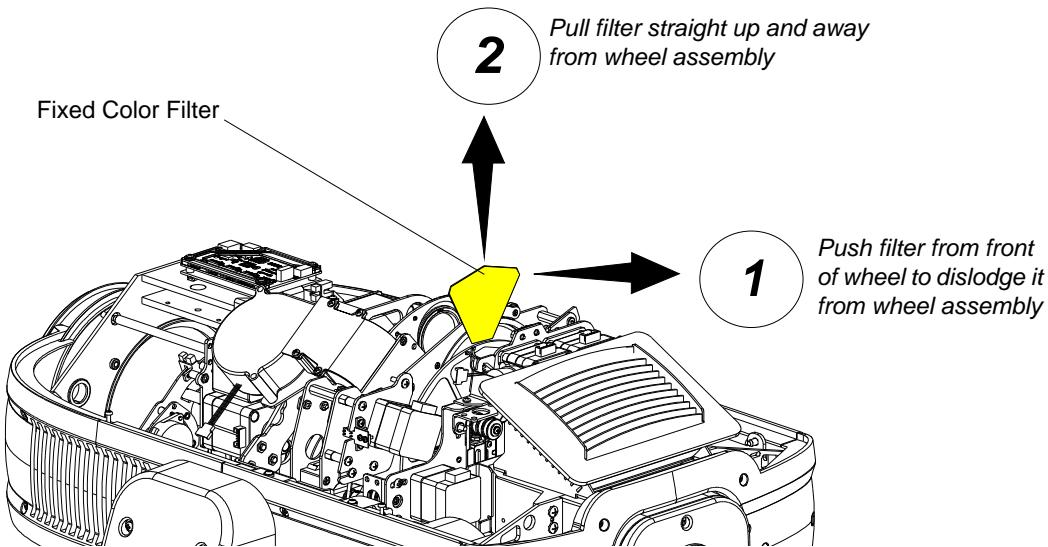

Figure A-5: Removing Fixed Color Filters
Step 4. At fixed color wheel, slowly rotate wheel by hand until filter to be removed is visible on assembly as shown in Figure A-5.
Step 5. At filter to be removed, (1) press filter out of fixed color wheel with fingers and (2) guide filter up and away from fixed color wheel.